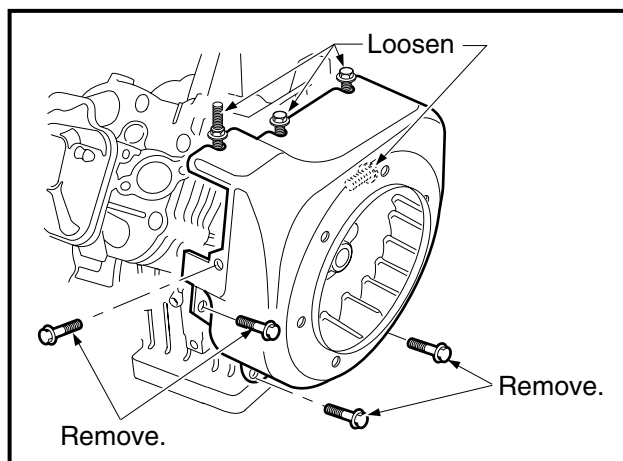

Figure 13-5 Flywheel Housing
2. Loosen three screws and remove the remaining four screws attaching the flywheel housing as shown, then remove the fan housing (Figure 13-5, Page 13-6).